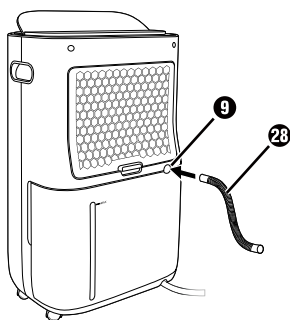

Fig. 3
- ◆ Connect either the supplied hose ❷ or the EU garden hose adapter ❸ to the outlet opening ❹ (see figures 3 + 4).